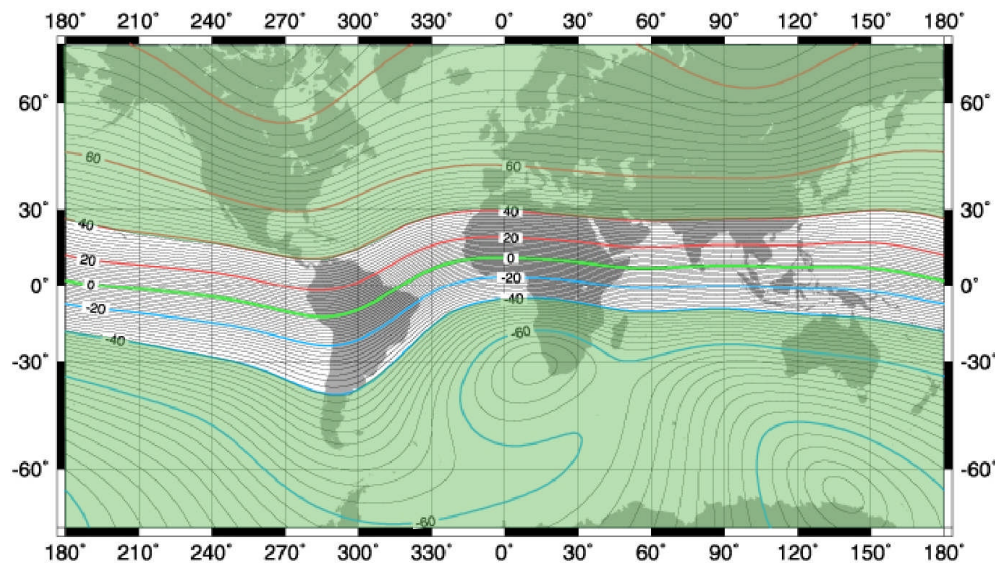
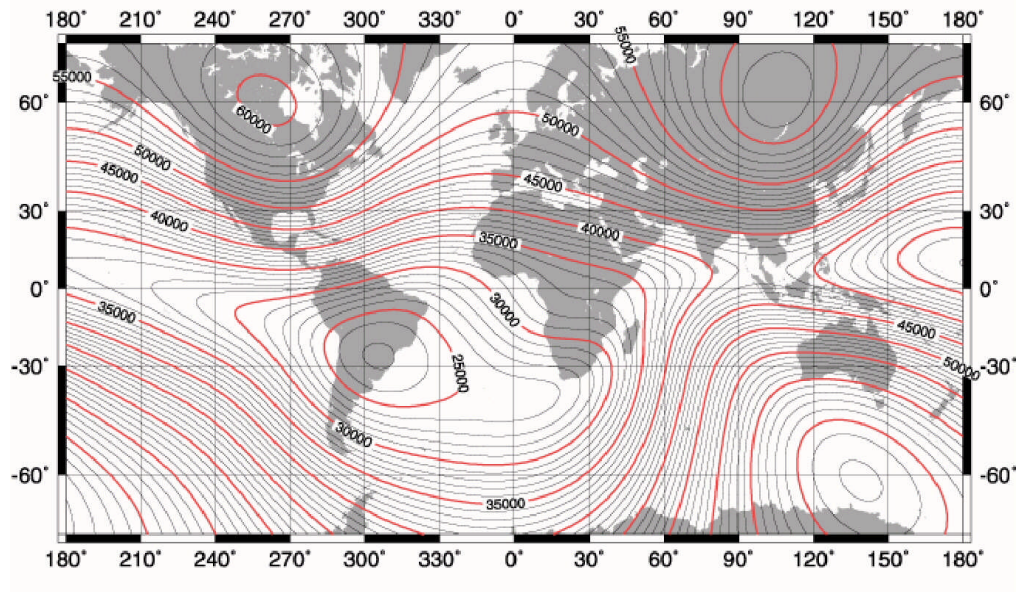

Figure 18. Magnetic Inclination of the Earth's field.
Figure 20. Magnetic Field Intensity Variation, (nT)
The G-856AX staff can be positioned horizontally or vertically when taking a measurement. If the staff is held vertically then the sensor should be attached as show in Figure 18. If, on the other hand, the staff is held horizontally during measurement, the mounting points should be reversed. That is, the sensor should be attached at the saddle mount in regions of high inclination and end mounted in low inclination regions.
Figure 18 is a map showing worldwide variation of the magnetic inclination. When used in the green-shaded regions shown in Figure 20, the sensor's cylindrical axis should be oriented vertically. Outside of this green region the sensor should be mounted so that its cylindrical axis is horizontal.
Usually, fairly accurate readings can be obtained if the magnetometer is tuned to be within 3,000 nT of the local magnetic field strength. The approximate magnetic field in your survey area can be obtained by examining the world magnetic map provided in Figure 20 and in the Appendix of this document. This world map is overlain with contour lines showing the regional variation of magnetic field strength with position. Simply find your position on the map and read the field strength on the nearest contour line.
- 1 Use the world magnetic map (Figure 20) to determine the approximate field strength for your location.